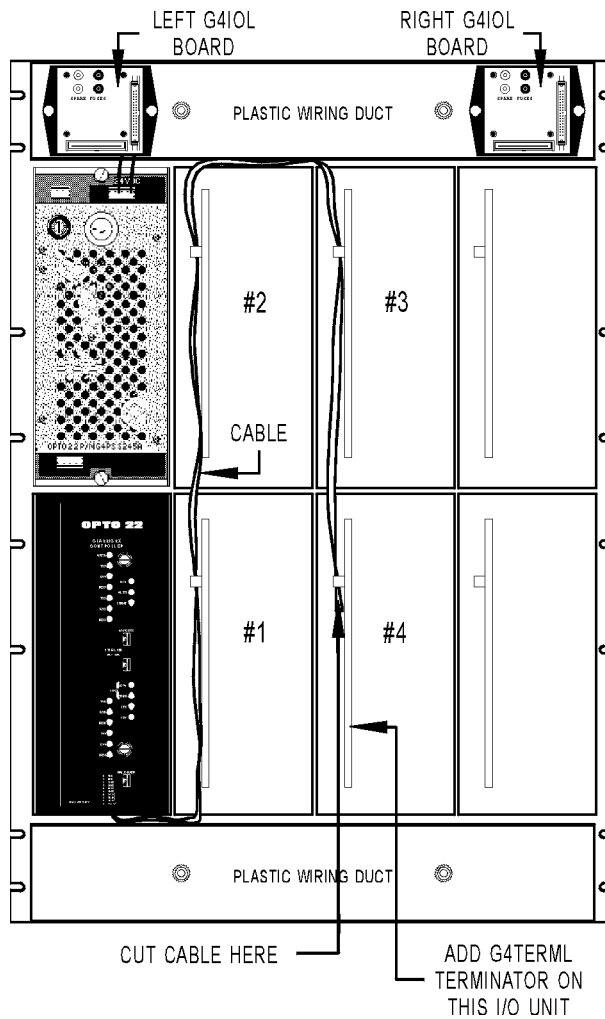

Figure 3-4: Mystic Controller Local Bus Wiring for Partial Panels
3. If the panel is complete and there are no additional panels or I/O bricks, cut off all excess connectors. Install a G4TERML on the last brick of the last panel in the network. See Figure 3-4.